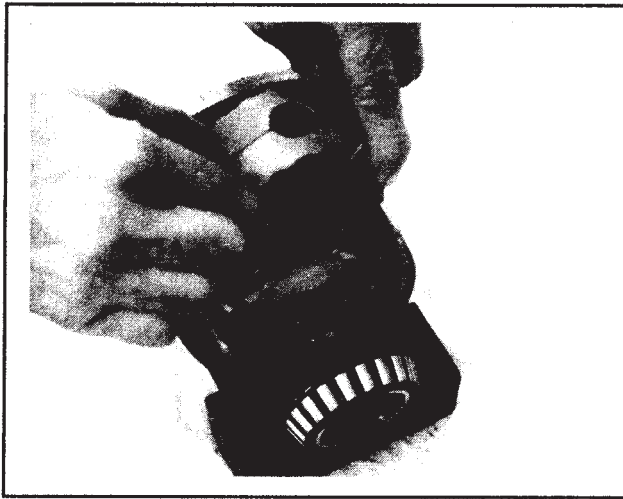

Figure 10
4. Compress the drivers together and insert them between the couplers (Figure 10). **Be sure that all springs and discs are in their proper places!** Note that sides of the drivers may have flats for clearance.